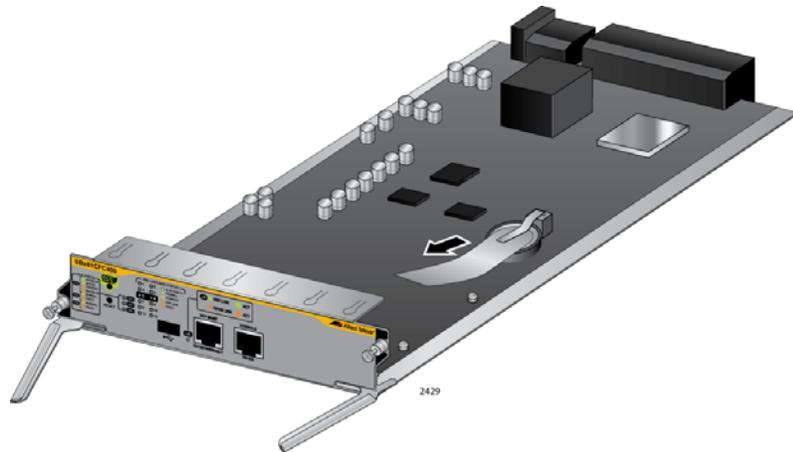

Figure 68. Removing the Battery Insulator
4. Carefully remove the battery insulator tab on the controller card by sliding it out from between the battery and battery clip, as shown in Figure 68 on page 134.